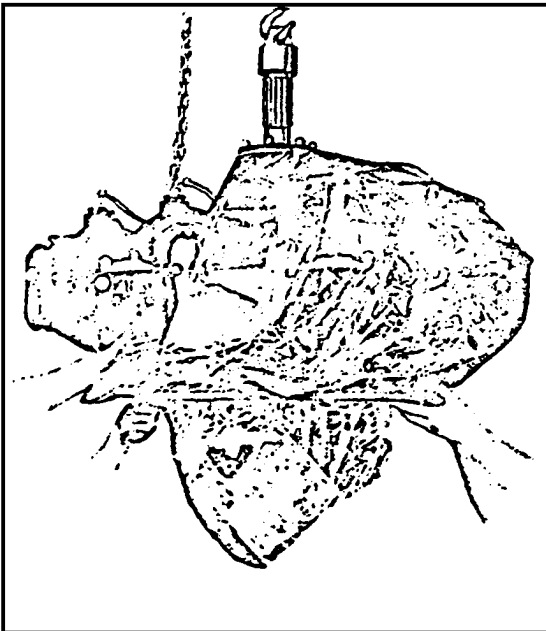

FIGURE 19—Attaching Mounting Plate to Engine
17. Remove engine from stand with propeller shaft in vertical position. Draw envelope up and over the rear end of the engine, locating the colored gasket on the mounting boss below No. 1 cylinder. Fasten the envelope temporarily with spring clips to any protruding parts of the engine. It is advisable to reinforce the mounting bolt gaskets on the envelope with heavy cardboard or rubber. Lift the mounting plate into position under the engine. Align the mounting bosses, the envelope gaskets, and the holes in the mounting plate. Insert the mounting bolts and fasten in the usual manner. (Refer to figure 19.) Inspect the envelope for tears. Install in the shipping box. (Refer to figure 20.) Install a shipping cap on the propeller shaft.